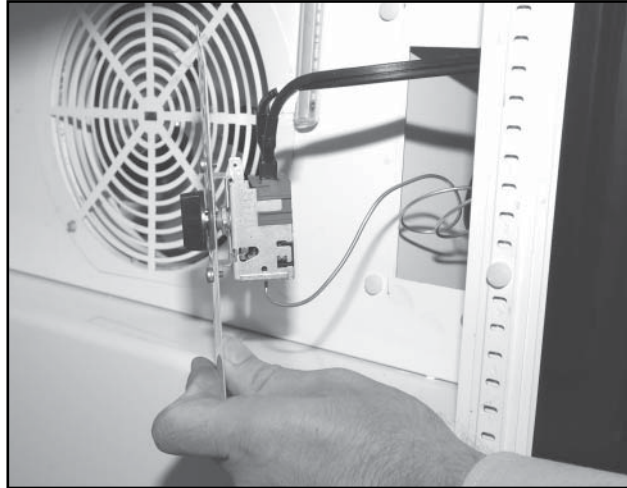

Figure 4 Removing temperature control plate (for TPP, Deep TWT, & Deep TUC cabinets).
A. The temperature control is inside the cabinet on the right-hand side. Back-out two thumb screws holding the temperature control plate in place. (See figure 4).